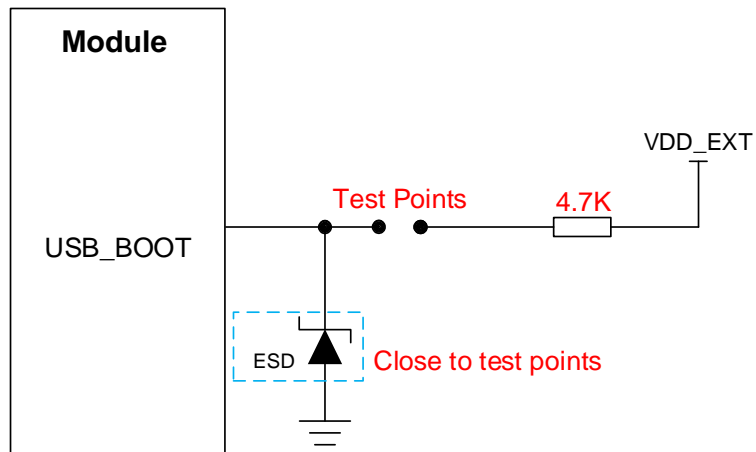

Figure 17: Reference Design of USB_BOOT
3. If you need to manually force the module to enter emergency download mode, directly connect the test points shown in **Figure 17**.
4.3. (U)SIM Interface